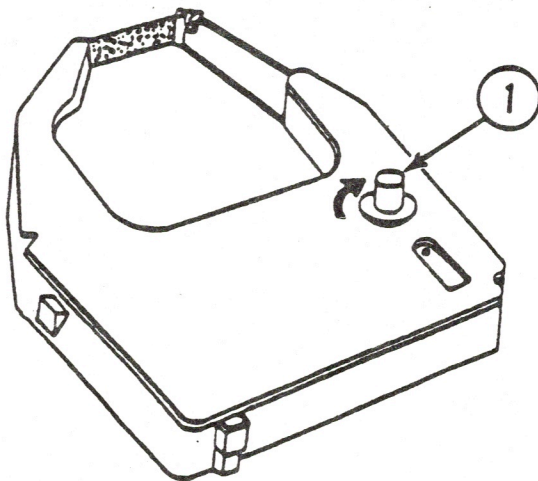

FIGURE 5
6. On the cassette, turn the knob as shown until you hear it "click" and the ribbon is taut. (See Figure 5, #1.)